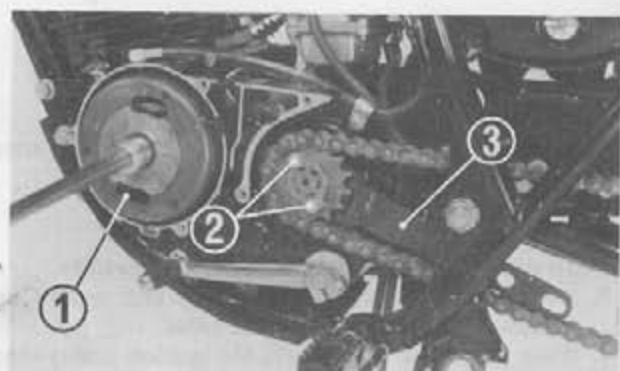

Fig. 3-20 (1) A.C. generator rotor
(2) Generator rotor cover
3. With the transmission gear placed in any position other than the neutral position, set the drive sprocket holder (Tool No. 07922-3570000) as shown in Fig. 3-20 and remove the 12 mm special nut tightening the generator rotor.